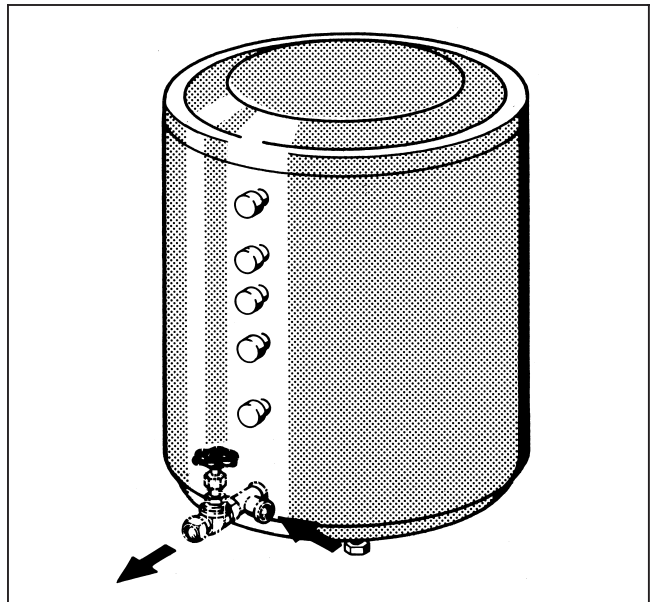

Fig. 11
- Shut-off the cold water flow and open the drain (EL). To air, open a tap positioned higher (Fig. 11).